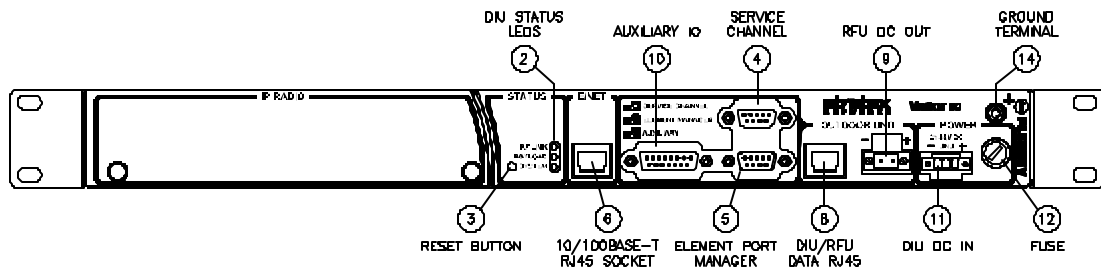

Figure 3-6. Velox LE IP DIU Front Panel with Payload Interface Panel
- Velox LE IP DIU (with optional 16 T1/E1 interface card), (see Figure 3-6. Velox LE IP DIU Front Panel with Payload Interface Panel on page 3-3. Note that there are no controls, indicators or connectors on the back panel of this DIU).